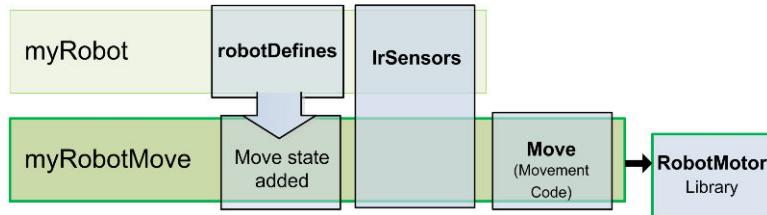

Figure 7-1. `myRobotMove` Sketch
- `MyRobotMove.ino`—This sketch shows how to use higher level movement functions. Constants for defining the current robot movement are added to the `robotDefines` tab. A new tab named `Move` is added that contains the high level movement functions. The `IrSensor` tab and `RobotMotor` library are unchanged (Figure 7-1).